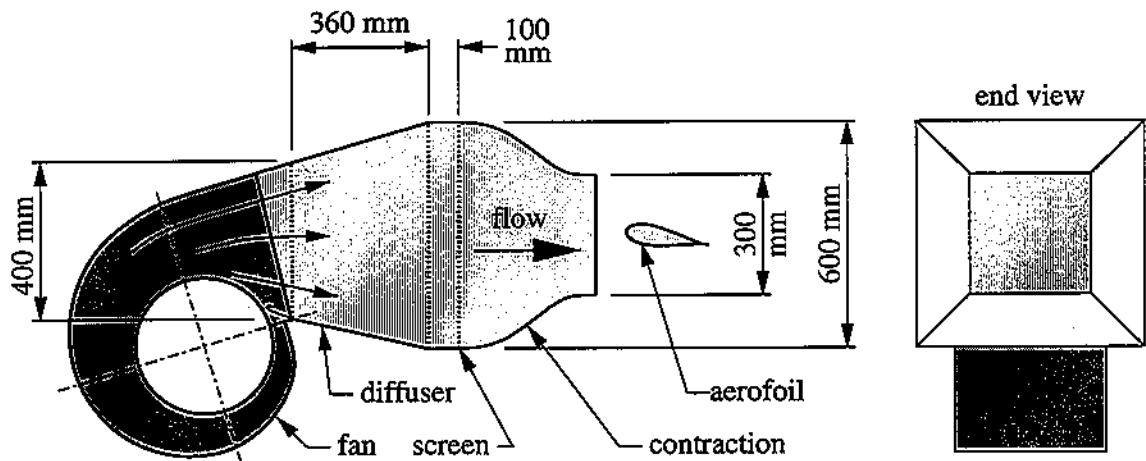
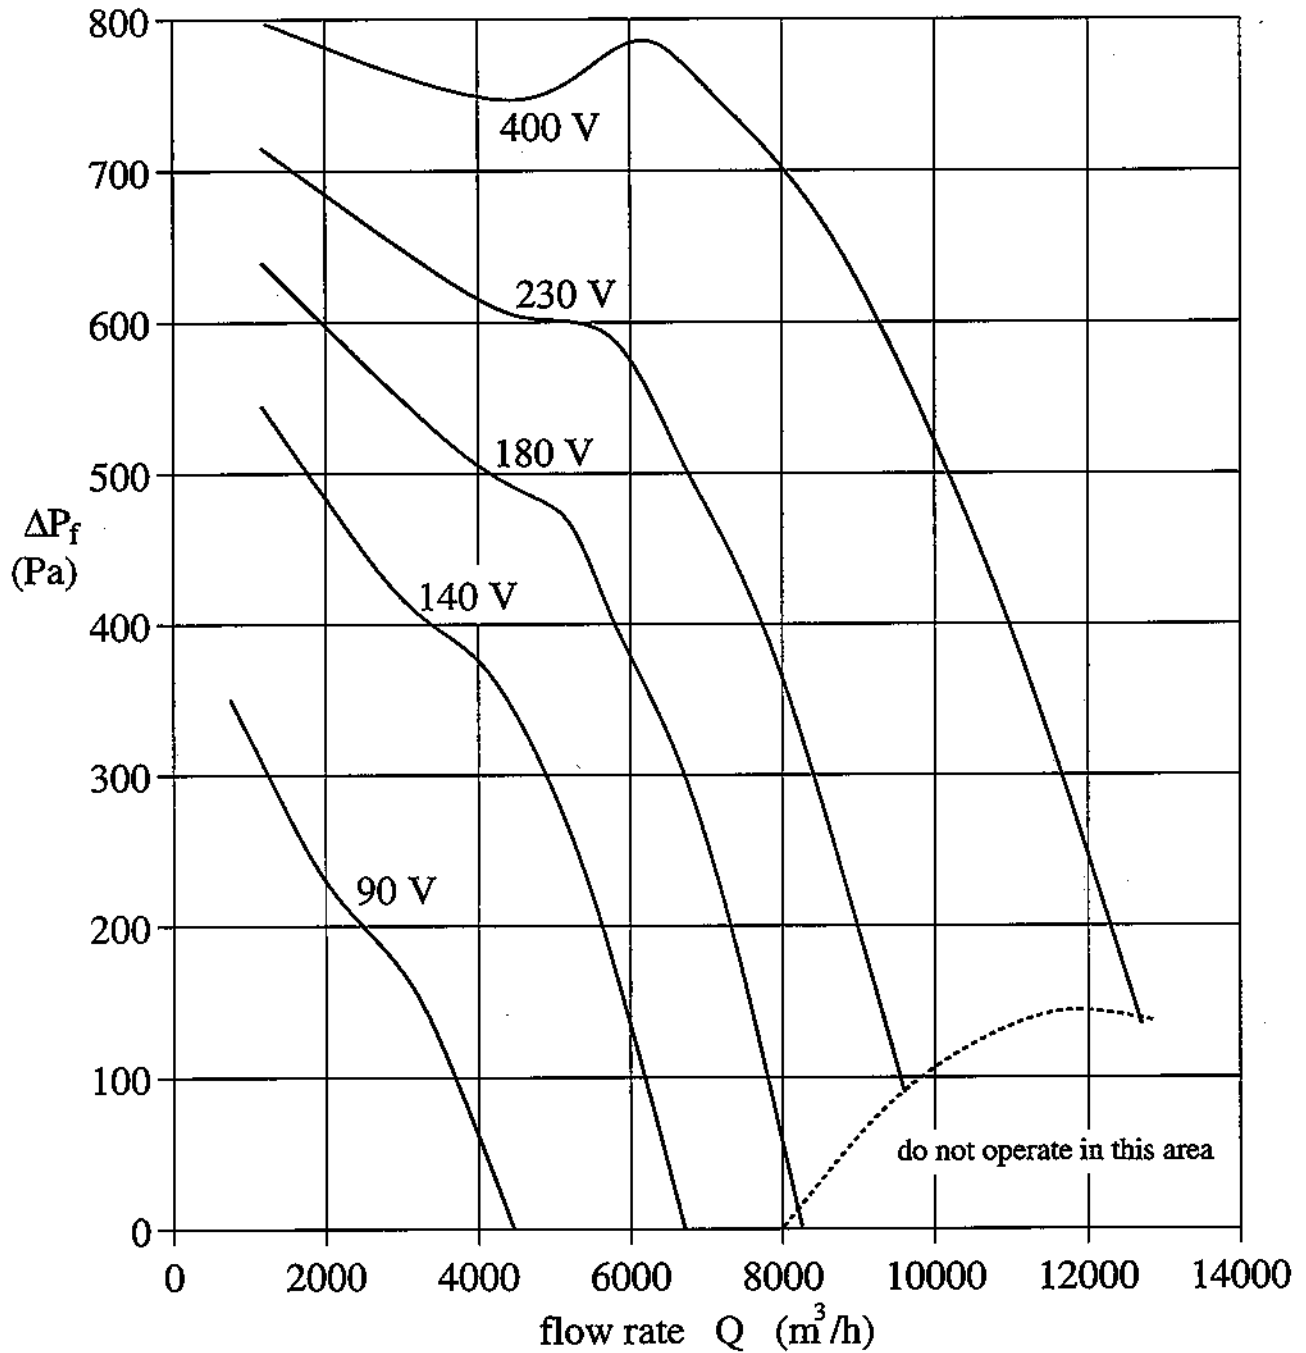

Figure 6: Wind tunnel for CET2 "Lift, drag and pressure measurement"
Figure 7: Static pressure characteristic of the wind-tunnel fan.
A smaller wind tunnel is required to do the CET2 "Lift, drag and pressure measurement" practical on an aerofoil. Figure 6 shows that the new wind tunnel will essentially consist of a centrifugal fan exhausting into a diffuser followed by a smooth contraction. The cross-sections of the diffuser and the contraction are square and have the dimensions shown in the Figure.
- (a) The wind tunnel contains 3 stainless-steel wire mesh screens at the positions shown in Figure 6. The purpose of the screens is to maintain and improve the uniformity of the flow, and to prevent boundary-layer separation in the diffuser. The screens are woven from $d_w = 0.376$ mm diameter wire. The ratio of open area to total area of the screen is $\beta = 0.582$. The pressure drop across each screen is given by the empirical formula,
- (c) Figure 7 is the static pressure characteristic of the fan shown in Figure 6. The fan static pressure characteristic is different from a pump specific energy characteristic because it does NOT include the specific kinetic energy of the flow $U^2/2$ at the fan exit. Therefore, when you plot the system resistance curve to find the flow rate, you should subtract $\rho U^2/2$ at the fan exit from the system resistance curve.
- (i) Plot on Figure 6 at least two points of the system resistance curve. Neglect boundary-layer skin friction loss. Assume that the screens suppress any separation in the diffuser. (Hint: The intended flow speed at the wind tunnel exit is 25 m/s.)